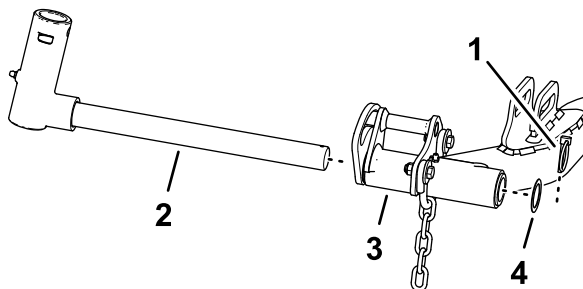

Figure 26
- Remove the lynch pin and washer securing the to the lift-arm pivot shaft to the lift arm, and slide the pivot shaft out of the lift arm (Figure 26).